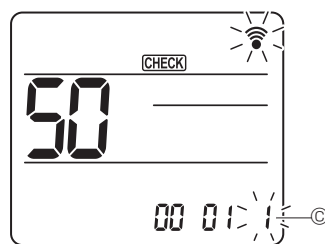

Fig. 7-20
- ④ Selecting the setting number
Use the [DOWN] button to change the Setting number ⑥. (Fig. 7-20)